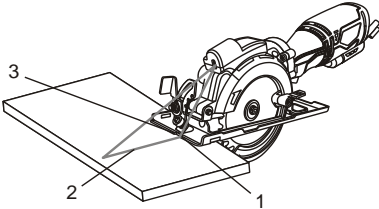

Fig. 9
NOTE: To align the saw blade with the cutting mark, use the guide marks on the front of the sole plate (Fig. 9). Use the 0° cutting mark (1) and the laser line (2) for right angle cuts. Use the 45° mark (3) for 45° bevel cuts. The 45° mark will allow for the extra material needed for the angle cut. Always make a test cut on a scrap workpiece before cutting the new material.